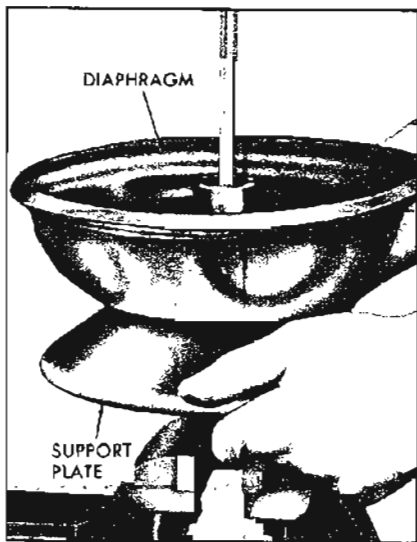

Figure 9-45—Position Power Piston on Support Plate Remover
4. Pull the diaphragm edges away from the support plate, so that the hands can grip on the steel support plate. Position the assembly down on the Power Piston Wrench J-21524 so that the three lugs on the tool fit into the three notches in the power piston. See Figure 9-45.